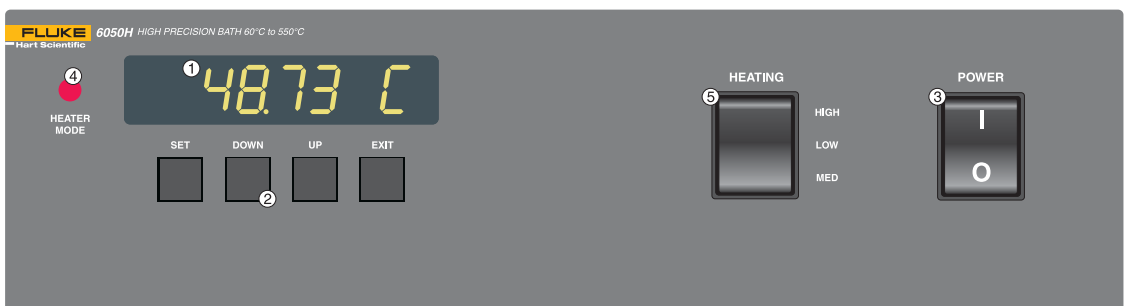

Figure 2 Front Panel Features
In the following discussion and throughout this manual a button icon around the word SET, UP, EXIT or DOWN indicates the panel button while the dotted box indicates the display reading (see Figure 2 on page 23). Explanation of the button or display reading are to the right of each button or display value.
With the bath power switch off (see Figure 2 on page 23), plug the bath into an AC mains outlet of the appropriate voltage, frequency, and current capacity. See Section 3.1, Specifications, for power details.
The following controls and indicators are present on the controller front panel (see Figure 2 below): (1) the digital LED display, (2) the control buttons, (3) the bath on/off power switch, (4) the control indicator light, and (5) the heater power switch.
(1) The digital display is an important part of the temperature controller. It displays the set-point temperature and bath temperature as well as the various other bath functions, settings, and constants. The display shows temperatures in values according to the selected scale units °C or °F.
(2) The control buttons (SET, DOWN, UP, and EXIT) are used to set the bath temperature set-point, access and set other operating parameters, and access and set bath calibration parameters.
The front panel red/green control indicator (see Figure 2 on page 23) shows the state of the heater. The control indicator glows red when the heater is on and glows green when the heater is off. The indicator will pulse constantly when the bath is maintaining a stable temperature.
The bath temperature is controlled by Hart Scientific’s unique hybrid digital/analog temperature controller (see Figure 2 on page 23). The controller offers the tight control stability of an analog temperature controller as well as the flexibility and programmability of a digital controller.
Please refer to Figure 2 on page 23 for the operation examples in the following sections.